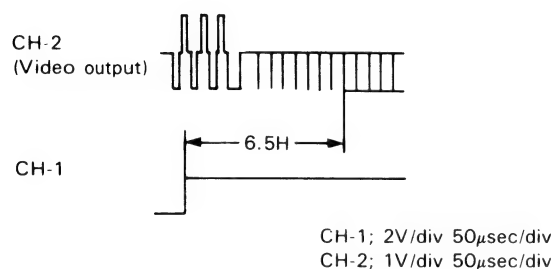

Figure 2-2.
3. Adjust R740 (phase generator MM control) so that the waveform on the oscilloscope screen be as shown in Fig. 2-2.